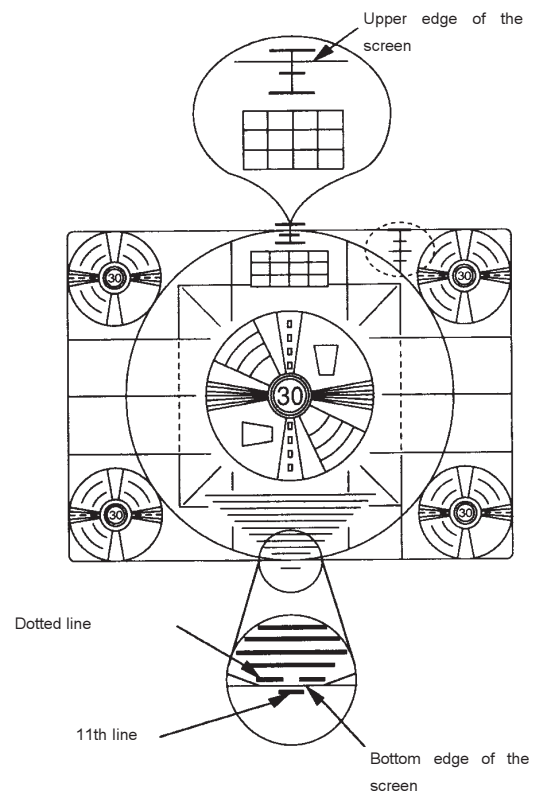

Figure 8-2
- Use the arrow keys "◀" and "▶" to set the bottom and the top edge of the circular test picture according to figure 8-2.